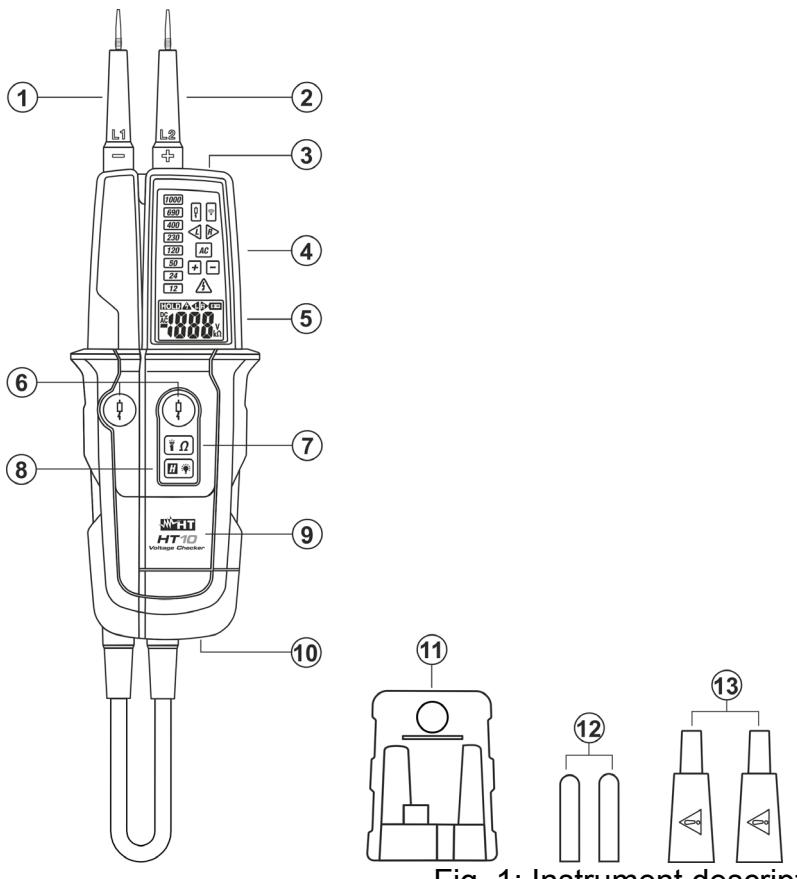
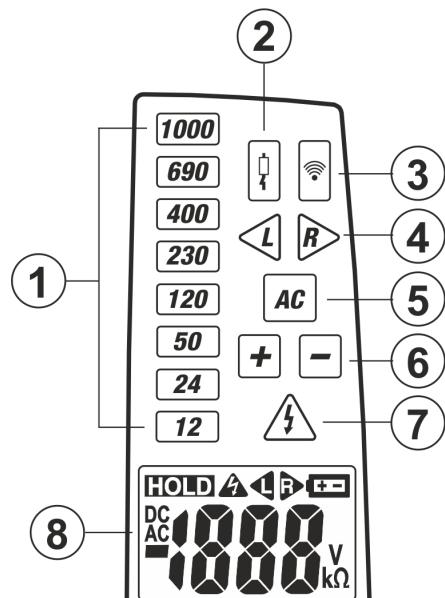

Fig. 1: Instrument description
Fig. 2: Description of warning LEDs
4. **Press the two switches (see Fig.1 - part 6) simultaneously. The applied voltage is displayed both through red LEDs switching on and on the display. AC symbol is displayed. The LED for low impedance test (see Fig.2 – part 2) switches on**